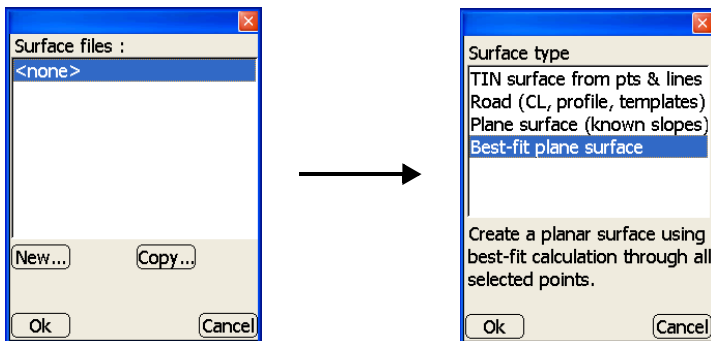

Figure 2-33. Surface Files Dialog Box
2. Press **Data ▶ Surface ▶ [<none> or file name]**. On the *surface files* dialog box, press **New** to create a design surface file, or press **Edit** to change a design surface file (Figure 2-33).
3. Select *Best-fit plane surface* and press **Ok** (Figure 2-33).